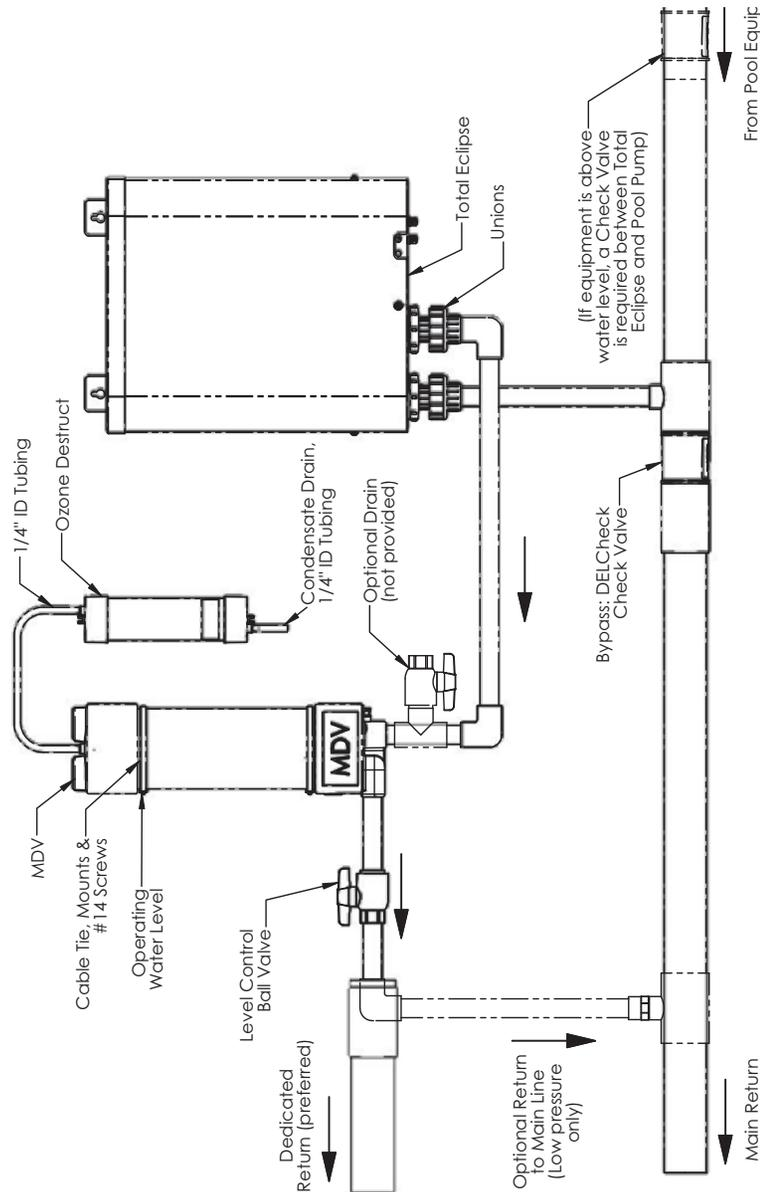

Figure 2: MDV and Total Eclipse Installation
SECTION 2. Installation (refer to Figure 2)
2. Mount the MDV vertically as shown in Figure 2 to a solid surface (i.e. fence, wall, post) using the (2) cable ties, (4) cable tie mounts, and (4) screws included. Use a pair of pliers to tighten and secure the cable tie. If trimming away excess, fold tab over to avoid the sharp edge. To avoid discoloration, mount in an area out of direct sunlight.
4. Plumb the Total Eclipse and MDV to the pool return line as indicated in Figure 2. Use thread sealant as needed. Do not use thread tape.